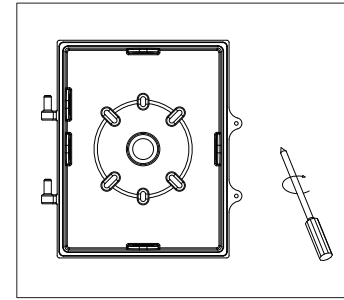

Figure 9
Step 6: Align the holes on the lamp base with the holes on the wall, and tighten the screws(Figure 9);